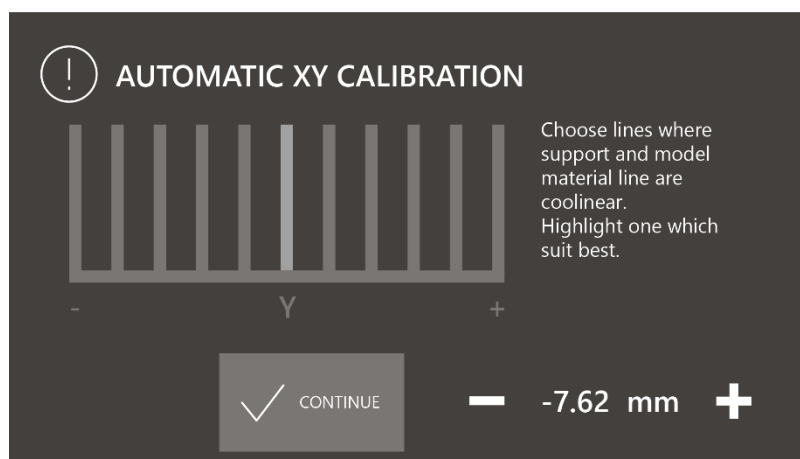

Fig. 66 Automatic offset calibration screen in the Y axis
5. Select the line on the display on which the model material with the support material in part Y is best covered (fig. 66).